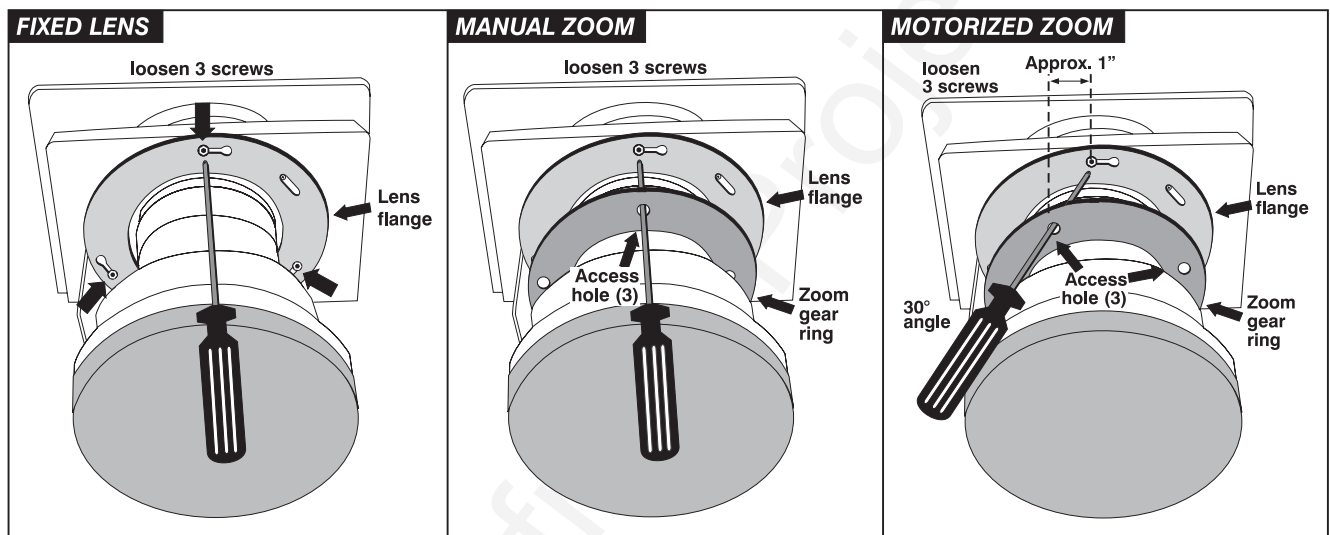

Figure 4.11. Accessing the Lens Mount Screws
Use the hex socket ball driver provided with the projector to loosen the 3 lens mount screws securing the lens flange to the mount—*loosen* these screws only, do not remove. Accessibility is illustrated in Figure 4.11.
- **IF MANUAL ZOOM LENS:** Access to the 3 lens mount screws is likely blocked by the toothed zoom ring. Manually rotate the zoom ring until its access holes align with the screws beyond, then insert the hex socket ball driver as shown. See Figure 4.11.
- **IF MOTORIZED ZOOM LENS:** As shown in Figure 4.11, the 3 access holes on the zoom gear will be “skewed” away from the lens mount screws (see *Before You Begin* instructions). Insert the hex socket ball driver through the holes at approximately 30° to access each screw. Aim *down* for 4 o’clock screw, aim *up* for 8 o’clock screw.
Secure the 3 lens mount screws. Refer back to *Figure 4.11. Accessing the Lens Mount Screws*—note 30° angle of hex driver required to secure a motorized zoom lens.